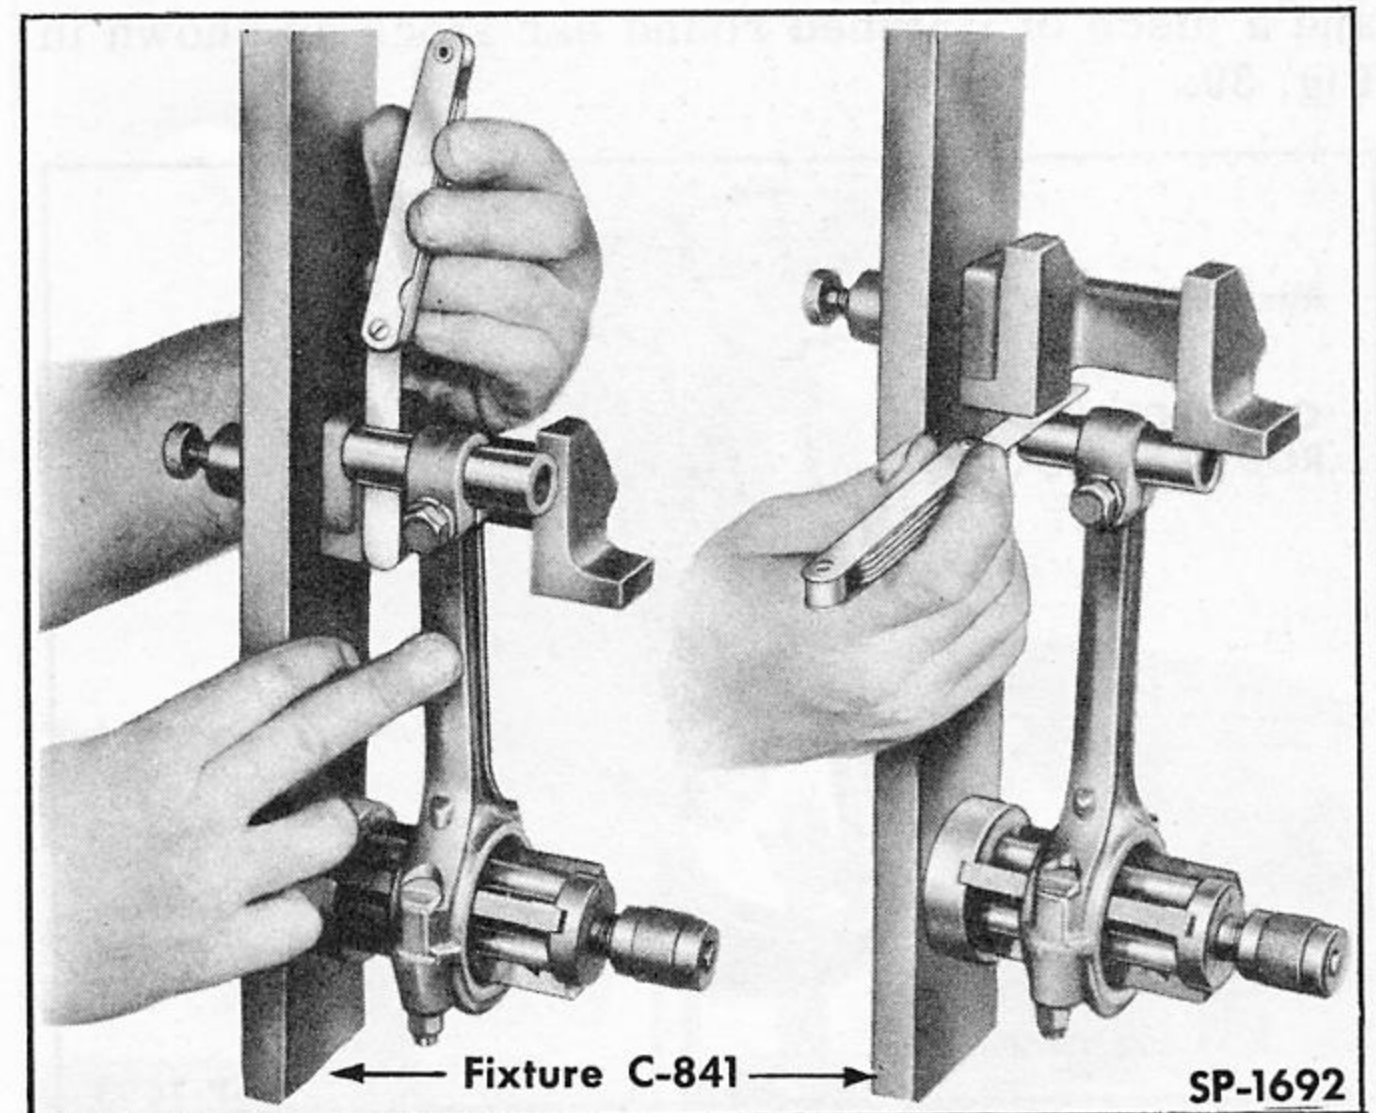

Fig. 37—Checking Connecting Rod Alignment
3. Check and correct connecting rod alignment, using Connecting Rod Aligning Fixture C-841 in accordance with instructions furnished with the fixture (Fig. 37).